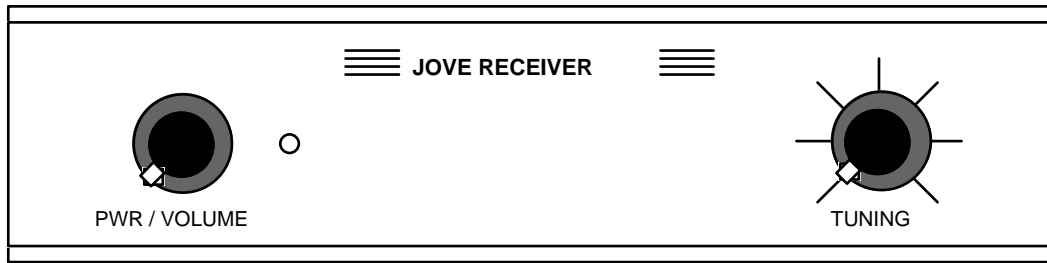

Figure 15. JOVE receiver front panel with knobs
15.  $\eta$  Install the two knobs. Align them on the shaft so that when the control is turned full counterclockwise, the index mark is near the 7 o'clock position (Figure 15). Once the knob is tightened down, the full counterclockwise rotation and the full clockwise rotation of the knob index mark should be equal-spaced from the 6 o'clock position.